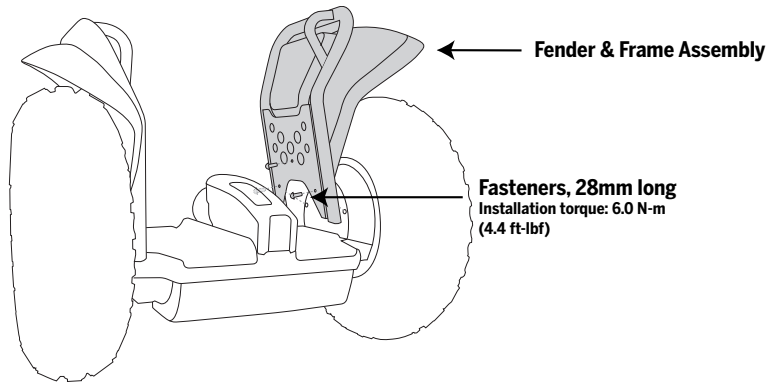

Figure 1. Removing or Installing the Fender / Frame Assembly
2. To remove the Fender & Frame Assembly from the PT, remove the (3) 28mm fasteners using a 4mm hex wrench. See Figure 1.